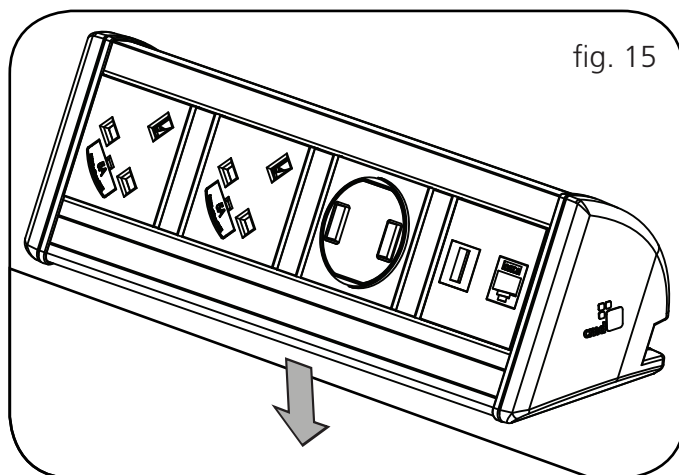

fig. 15
3. Position the unit on a clean, dry desk surface (fig. 15). Do not try to reposition after positioning.